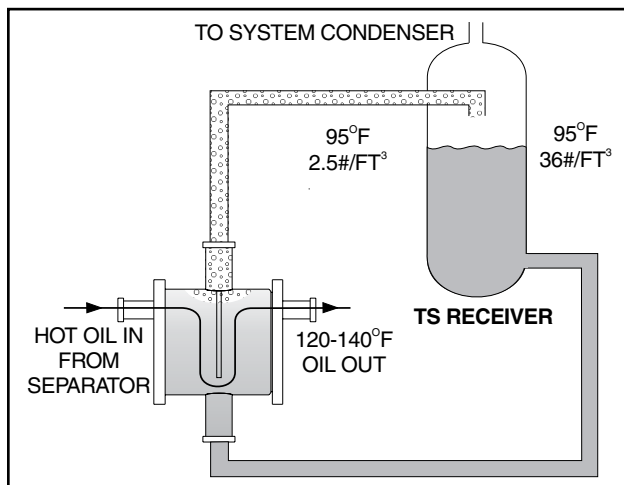

Figure 7
**SYSTEM OPERATION** - Liquid refrigerant fills the cooler shell side up to the Thermosyphon receiver liquid level. See Figure 7.